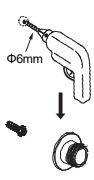

Figure 6
- Remove the copper screw, then use the Φ6mm drill bit to drill a hole on the marked place. Install the copper screw (Figure 6).